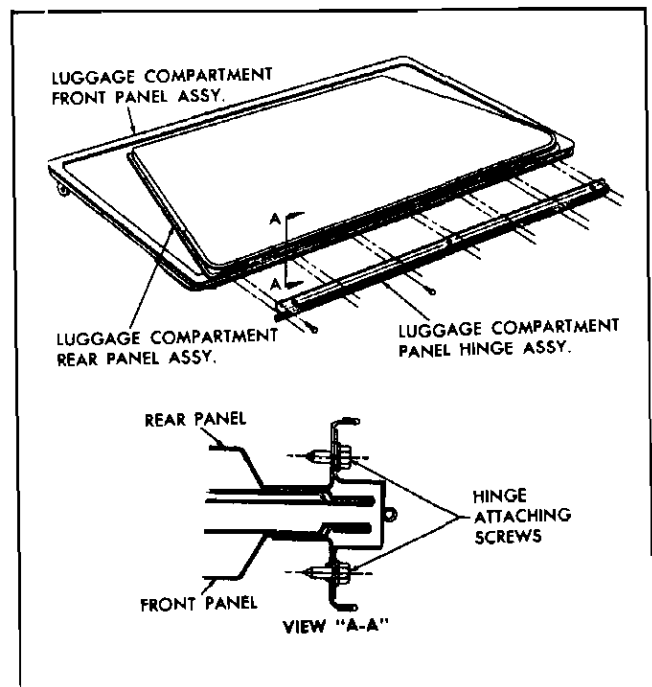

Fig. 5-13 Luggage Compartment Hinge Attachment
1. On 35 styles, use handle and fold rear luggage compartment panel forward until it is resting entirely on front luggage compartment panel (Fig. 5-13).
1. Using handle, fold rear luggage compartment panel forward until it is resting entirely on front luggage compartment panel (Fig. 5-13).
2. Remove screws securing hinge assembly to both front and rear panels and remove hinge from body (view A-A, Fig. 5-13).